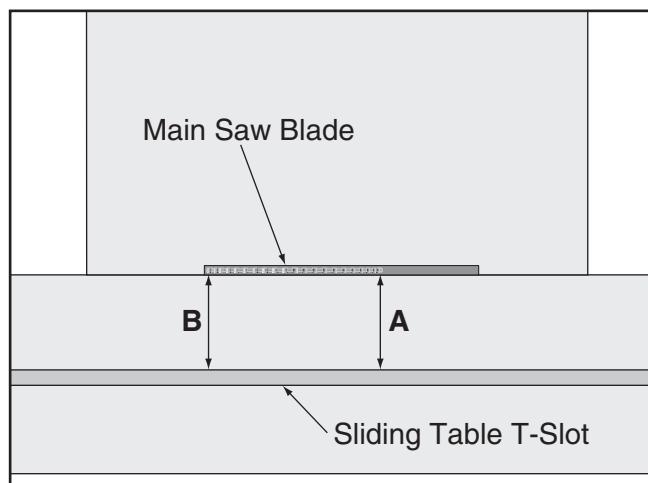

Figure 22. Measuring the distance between sliding table T-slot and main blade.
16. Use the adjustable square and feeler gauges to measure the distance between the sliding table T-slot and the main saw blade at the mark you made in **Step 15**. This is distance "A" shown in **Figure 22**.